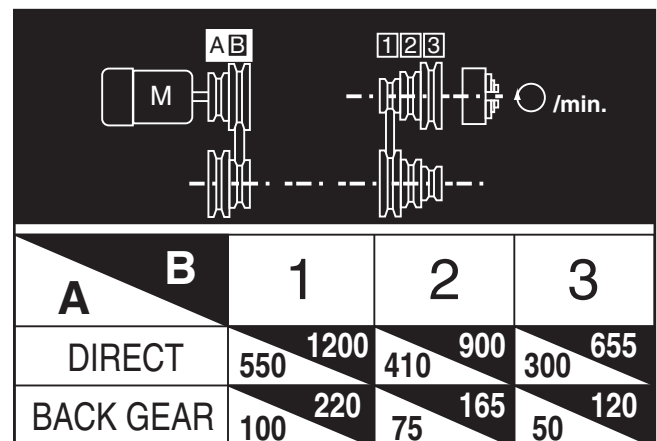

Figure 49. Spindle speed configuration chart.
2. Refer to the chart in **Figure 49** and find the value closest to your calculated spindle speed.
3. Release V-belt tension by pulling the belt tensioning lever forward, lift the headstock cover, then move the motor and spindle V-belts to the positions indicated by the chart in **Figure 49**.